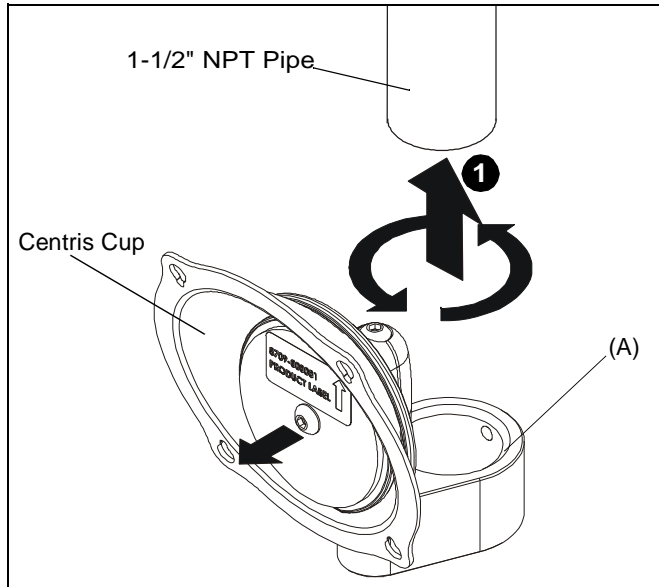

Figure 1
1. Thread mount (A) onto 1-1/2" NPT pipe (not included) until hand tight, with a minimum of four threads engaged.
2. Adjust mount (A) position until Centris cup is facing the desired position of the display. (See Figure 1)